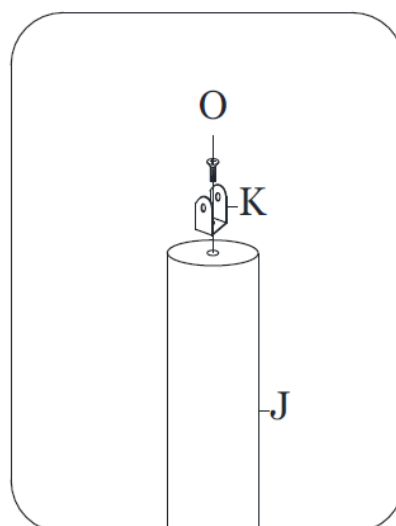

Figure 3
Step 1: Attach Small “U” Brackets (K) to top of each Corner Post (J) using Screw (O). See Figure 3.